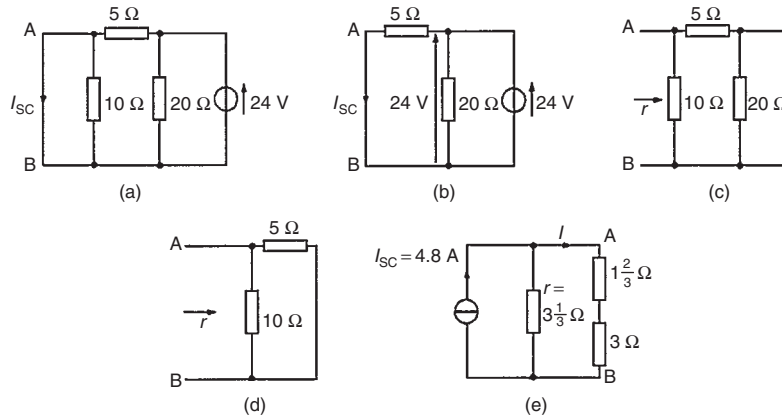

Figure 13.61
- (i) The branch containing the 3 Ω resistance is short-circuited as shown in Fig. 13.61(a)
(ii) From the equivalent circuit shown in Fig. 13.61(b),
(iii) If the 24V source of e.m.f. is removed the resistance ‘looking-in’ at a break made between A and B is obtained from Fig. 13.61(c) and its equivalent circuit shown in Fig. 13.61(d) and is given by:
(iv) From the Norton equivalent network shown in Fig. 13.61(e) the current in the 3 Ω resistance is given by: